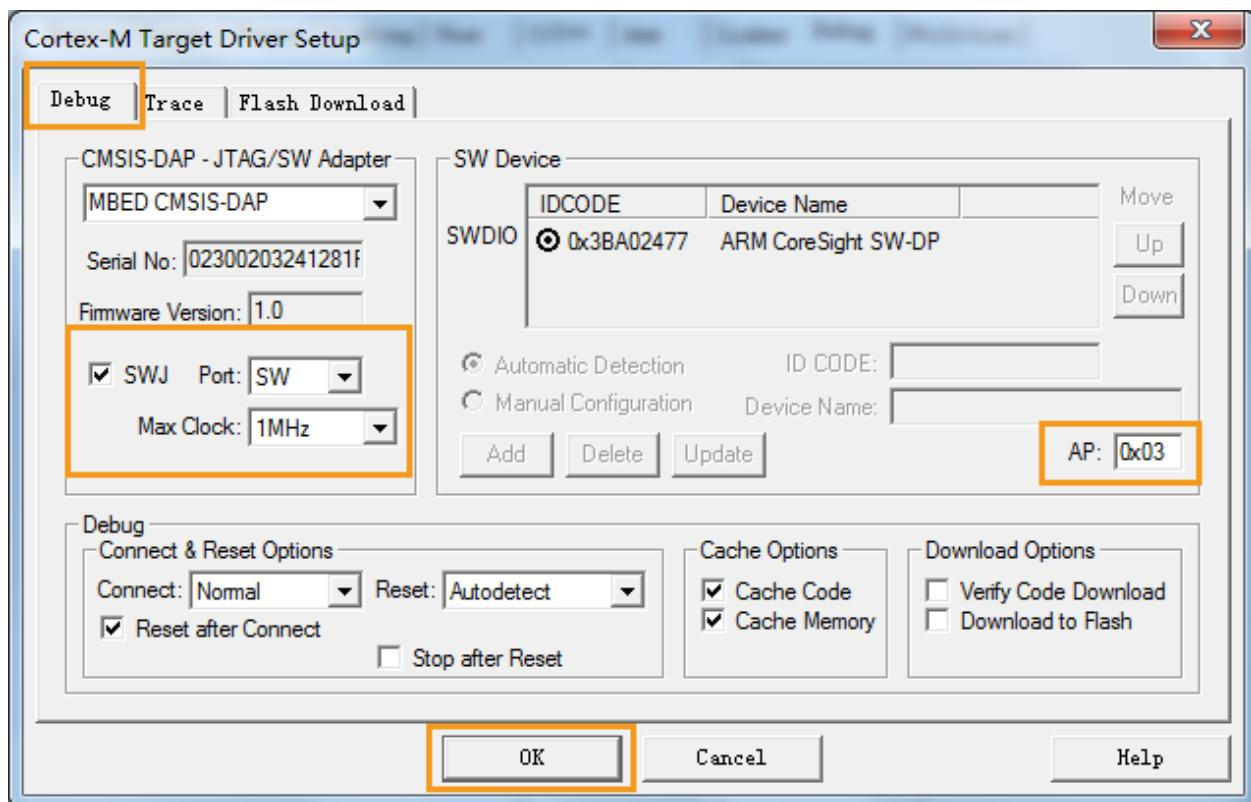

Figure 61. Setting the debug parameters on LinkIt 2523 HDK
- 8) If debugging on LinkIt 2523 HDK, set **AP** as 0x03, as shown in Figure 61.